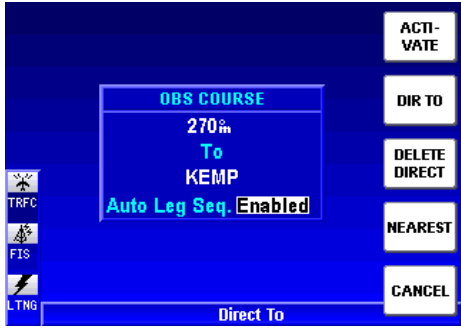

Figure 1-149
4. Use the Joystick to highlight the **Auto Leg Seq.** field as shown in Figure 1-149.